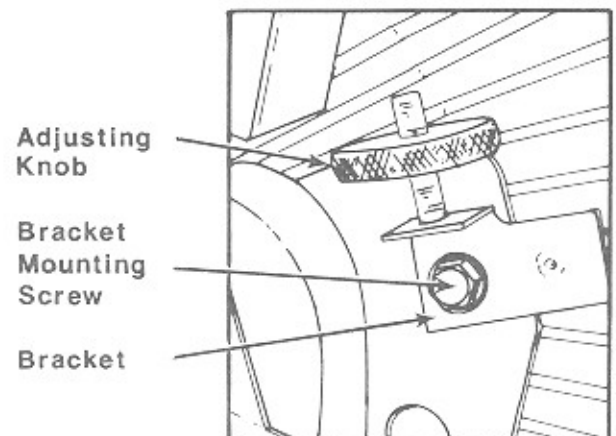

Figure 6-5. Optical Switch Adjustment
2. Loosen the optical switch bracket mounting screw, turn the adjustment knob counter clockwise to top of its travel, and move the bracket down to the bottom of its travel (refer to figure 6-5). Snug the optical switch mounting screw, so that the bracket can move with resistance.